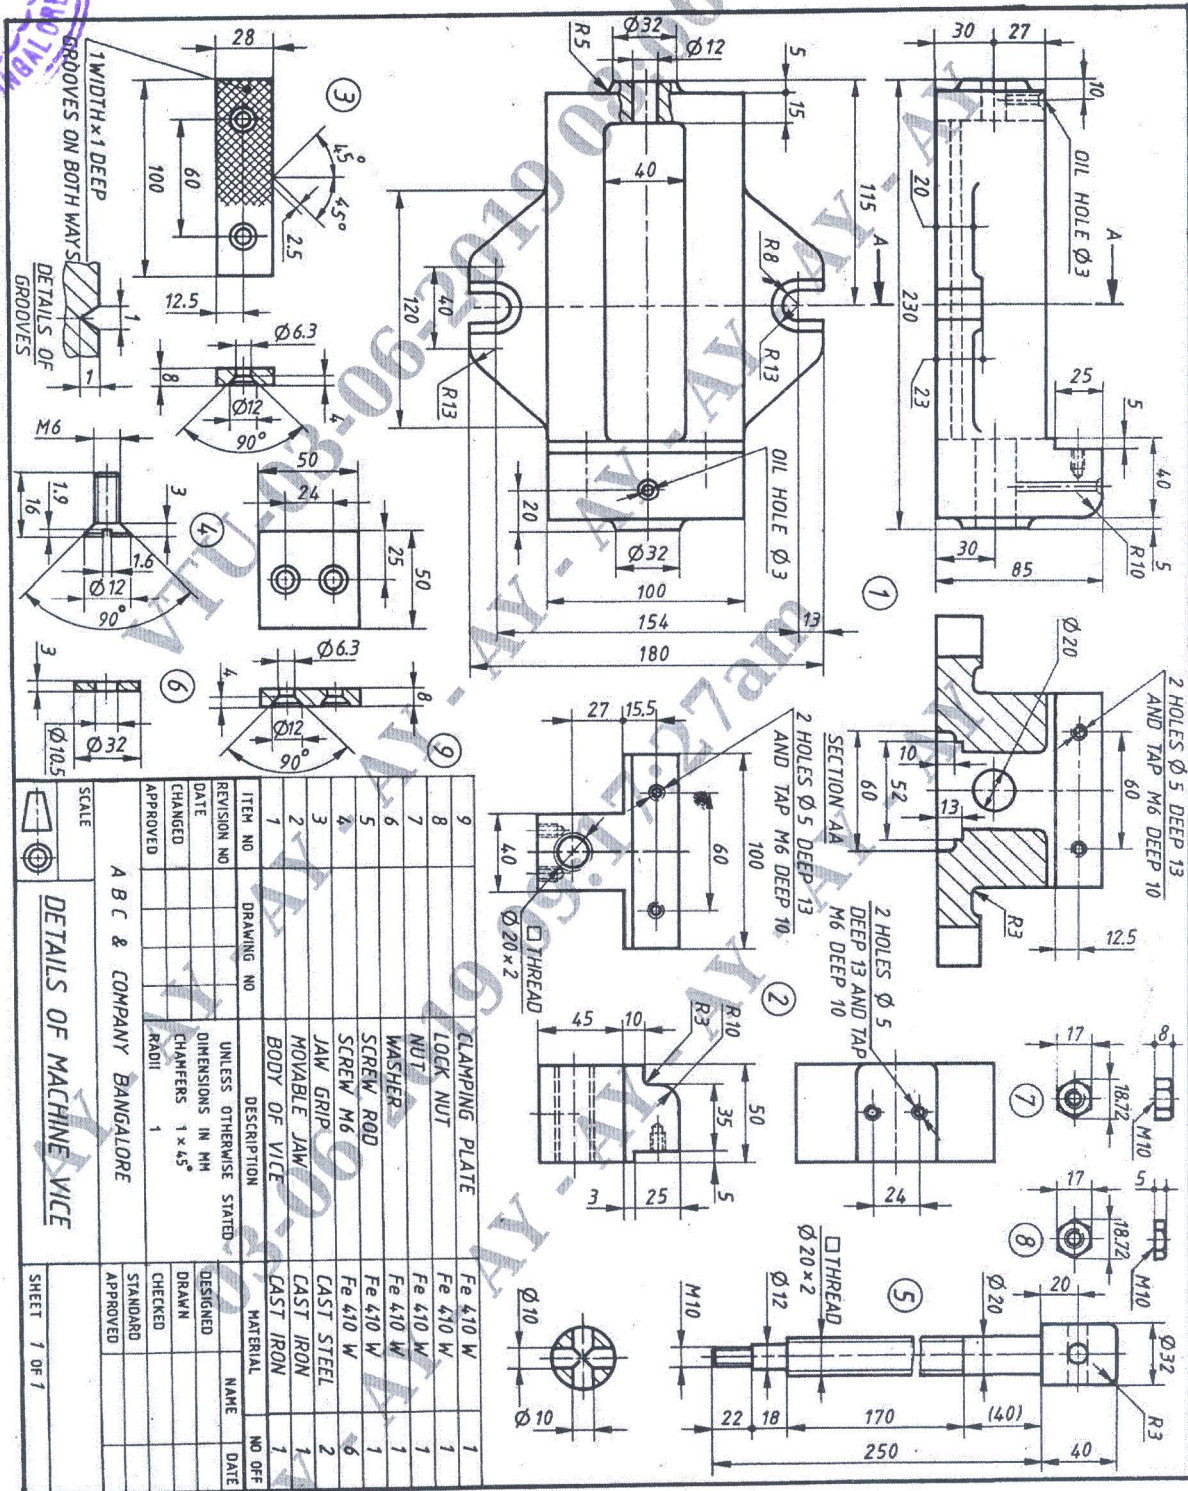

Figure 2 "MACHINE VICE"
- Q.No.5** Details of "MACHINE VICE" is shown in following Figure 2. Assemble the parts and draw the following views. (a) Sectional Front View (b) Top view. **(50 Marks)**